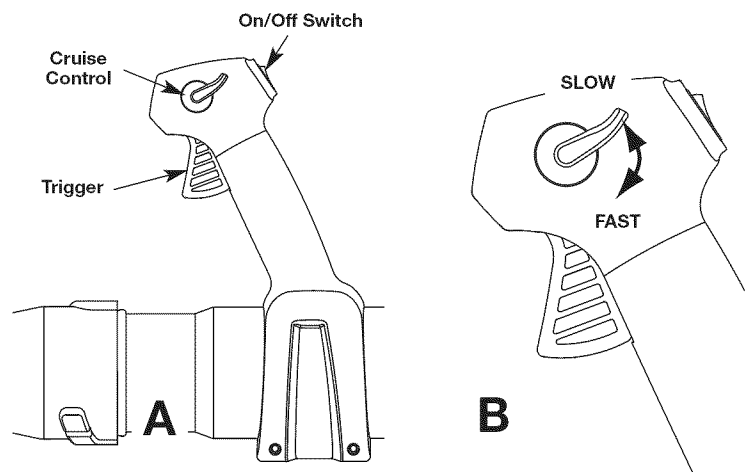

Fig. 15
**NOTE:** The unit should be started in idle. Do not squeeze the trigger until step 8 (Fig. 15, A).
1. Once the engine has started and warmed up, squeeze the trigger to accelerate the unit as needed (Fig. 15, B).
2. For longer periods of operation and to eliminate possible finger fatigue, move the cruise control toward the **FAST** position to incrementally increase or maintain the unit's engine speed (Fig. 15, B). When the cruise control is pressed, the trigger will recede into the handle.
3. To decrease engine speed, move the cruise control to the **SLOW** position and the trigger will return to the idle position (Fig. 15, B).
2. Press and hold the On/Off switch in the OFF (O) position until the unit comes to a complete stop (Fig. 15, A).
- Use the cruise control (Fig. 15) to keep the trigger depressed while operating to make continuous operation easier.